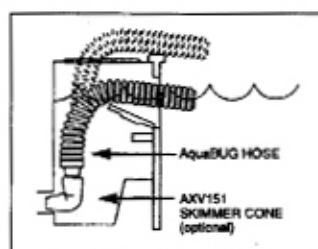

Figure 7
**Figure 7** shows the proper way to connect the hose into a skimmer that has a back or side suction port. In this case, the standard AXV093BP cannot be used because of the skimmer configuration, and the optional AXV151 90-degree Elbow must be purchased from your Hayward dealer.